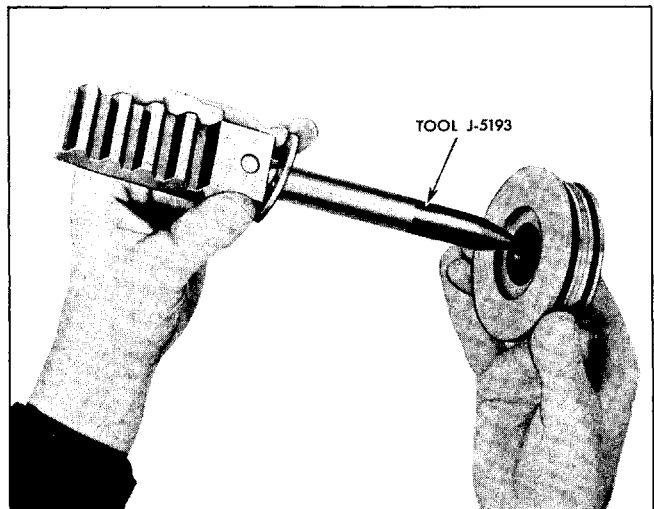

Fig. 9-47 Installing Adapter on Piston Rod
4. Install tool J-5193 over threaded end of piston rod and slide adapter over piston rod (Fig. 9-47). Remove tool.